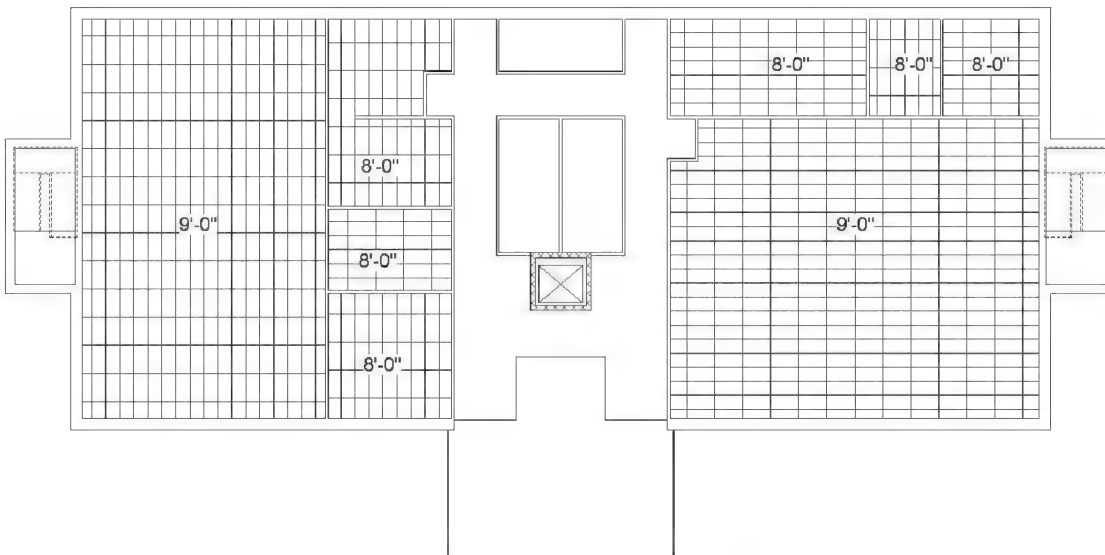

FIGURE 7-2.5 Level 1: Ceiling Grids
10. Use the **Move** tool to move the grid 24" to the North (Figure 7-2.5).
11. Place ceiling grids as shown in Figure 7-2.5.